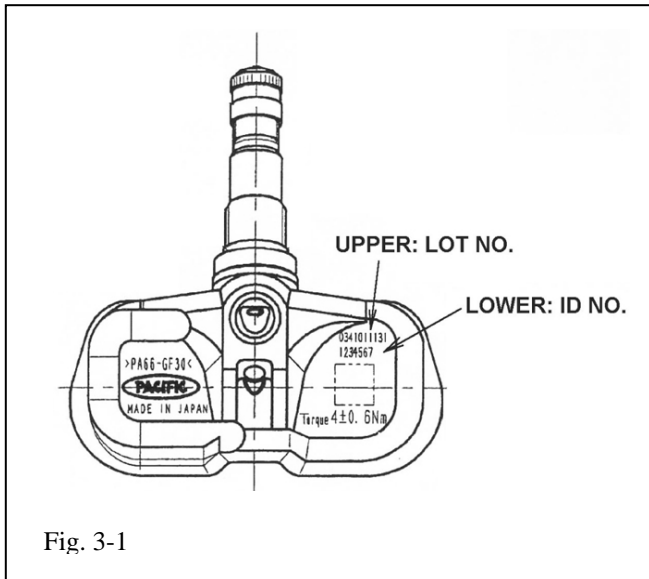

Fig. 3-1
- (e) **If changing from Steel Styled Wheel to Accessory Wheel** - Record TPMS Transmitter ID No of the new TPMS Transmitter, and verify that the number is copied accurately. (Fig. 3-1)
(a) Mount wheel/tire on wheel balance machine and balance in DYNAMIC MODE. Enable the LOAD ROLLER, if applicable (enabling the load roller ensures proper bead seating). Use clip-on type balance weight on the inner rim lip and stick-on type weights at outer location. (Fig. 3-1 & Fig. 3-2)